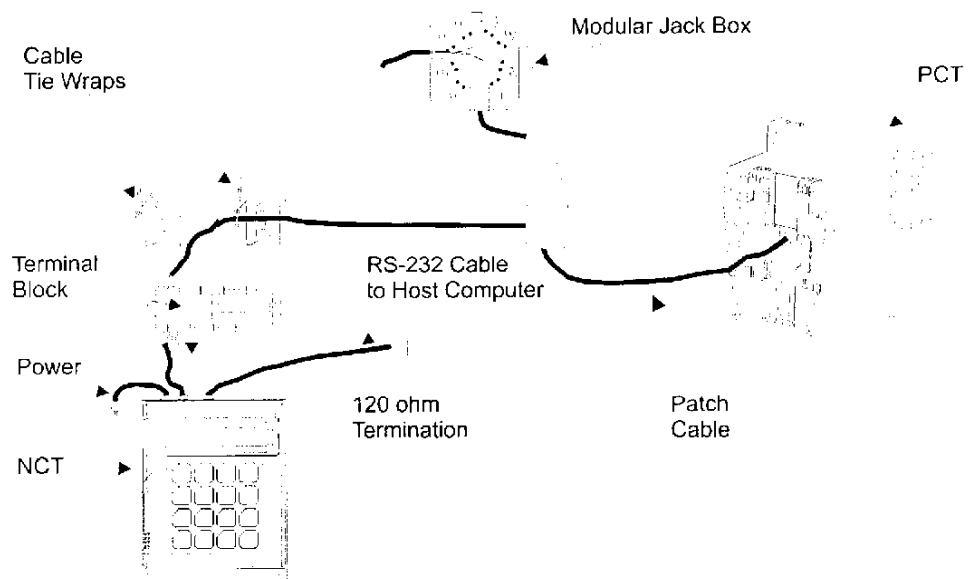

Figure 4 - NCT Cable Connections
The cable between the PCT and the NCT should contain at least two pairs of 120 ohm twisted pair wire. The twisted pairs are color coordinated (i.e., blue, and white w/blue stripe). One twisted pair should be used to go from the NCT to the PCT location and another twisted pair for the return. The return twisted pair from the last PCT on the network must be terminated with a 120 ohm resistance-capacitance (RC) network as shown in Figure 4. This RC network is comprised of an 120 ohm resistor and a 0.1 micro-farad capacitor.